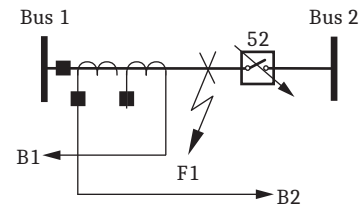

Figure 15 A Single CT With Two CT Cores Configured in Overlap
- A single CT with two cores configured in overlap (*Figure 15*)
Configure any one of these schemes without using external auxiliary relays. *Figure 14* and *Figure 15* also show the tie breaker closing onto an existing fault, F1. The SEL-487B includes tie-breaker logic to prevent the loss of both zones for this fault.